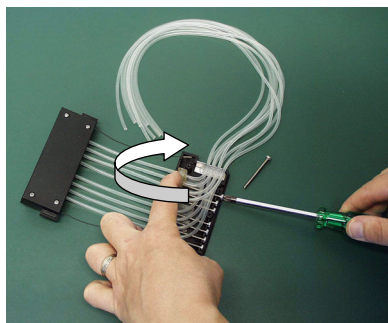

Figure 5-38. Fastening the calibration screws
10. Fasten the calibration screws from the previous tubing into their places using a hexagonal screwdriver (Figure 5-38).